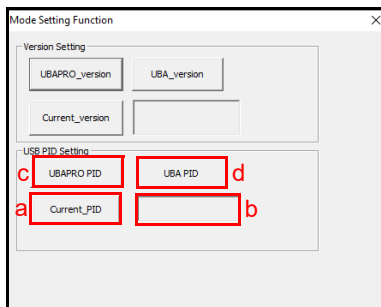

Figure 6 Change USB PID Setting (Mode Setting Function Screen)
- Click on the Current_PID button (Figure 6 a) to display the current setting (Figure 6 b).
- Click on the UBAPRO PID button (Figure 6 c) to select the UBA Pro PID setting.
- Click on the UBA PID button (Figure 6 d) to select the UBA PID setting.